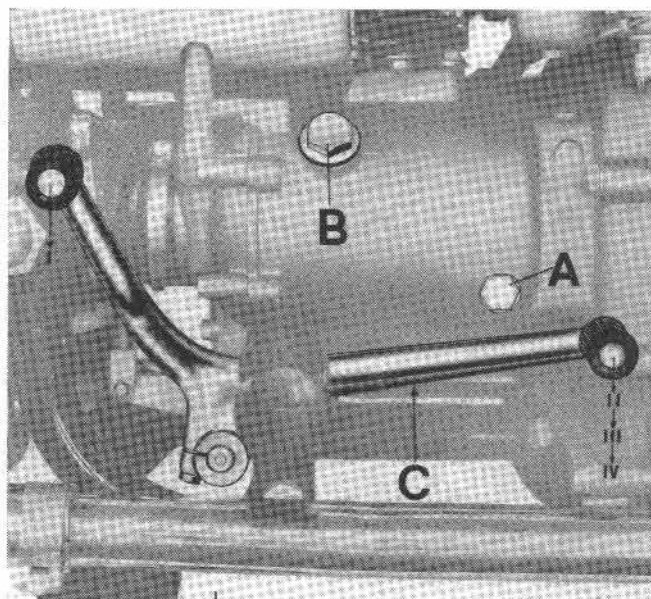

Fig. 75
GEAR BOX CONTROL (see Fig. 75)
Before beginning to strip down the gearbox drain oil contained therein by unscrewing drain plug (see Fig. 75).
- Filler plug and drain plug (B and A on Fig. 75).